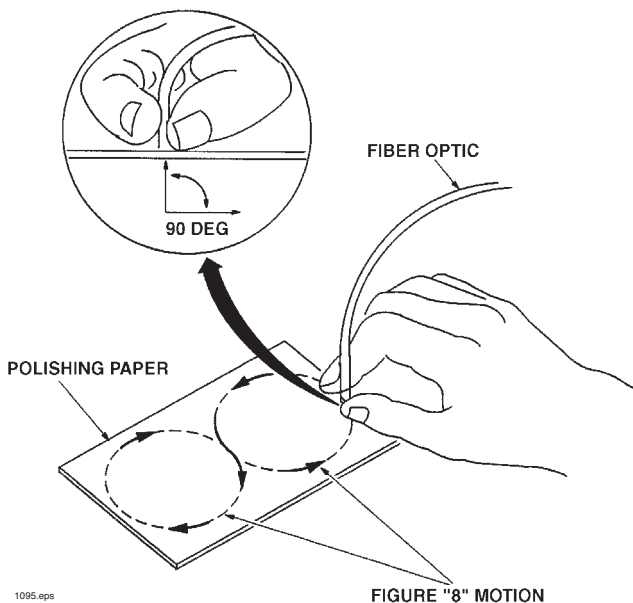

Figure 4. Pattern and orientation of the optical fiber during polishing
2. Wet the 2000 grit polishing paper with water or light oil and place it on a flat, firm surface. Hold the optical fiber upright, at right angles to the paper, and polish the fiber tip with a gentle "figure-8" motion as shown in Figure 4. You may get the best results by supporting the upright fiber against some flat object such as a portion of a printed wiring board.